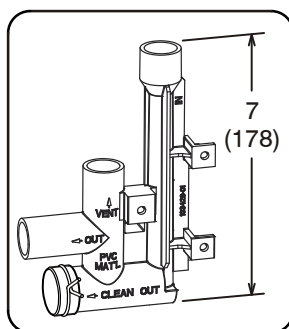

FIGURE 59
This unit is designed for either right- or left-side exit of condensate piping in upflow applications. In horizontal applications, the condensate trap must extend below the unit. An 8" service clearance is required for the condensate trap. Refer to figure 52 for condensate trap locations. Figure 59 shows trap assembly using 1/2" PVC or 3/4" PVC.
- 3 - Install the cap over the clean out opening at the base of the trap. Secure with clamp. See figure 59.
- 4 - Install drain trap using appropriate PVC fittings, glue all joints. Glue the provided drain trap as shown in figure 59. Route the condensate line to an open drain. *Condensate line must maintain a 1/4" downward slope from the furnace to the drain.*